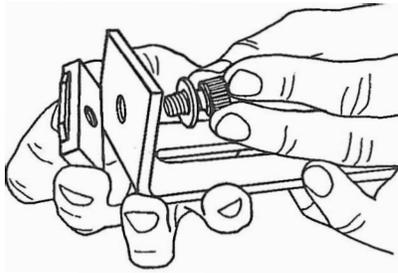

Fig. A-34
**28.** Place a flat washer (2) on a cap screw (11), then thread the screw through a bracket (9) and into the center hole of a T-nut (26), as illustrated in Fig. A-34. Repeat this step to assemble the other bracket.